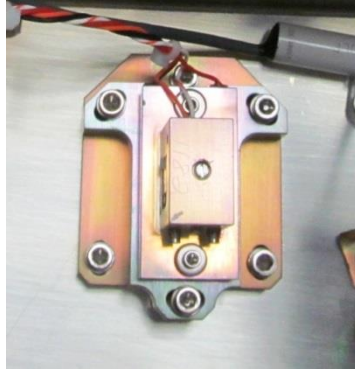

Figure 2-22: SHG Mount Location
1. Disconnect TEC control cable and cut the cable tie. Remove the top crystal mount by loosening the three # 8 screws (see **Figure 2-22** below).